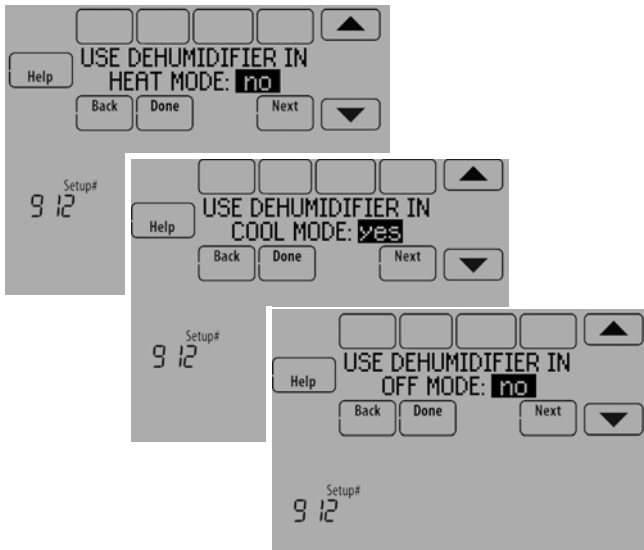

Fig. 220.
5. Select the system mode(s) to allow dehumidification. See Fig. 220.